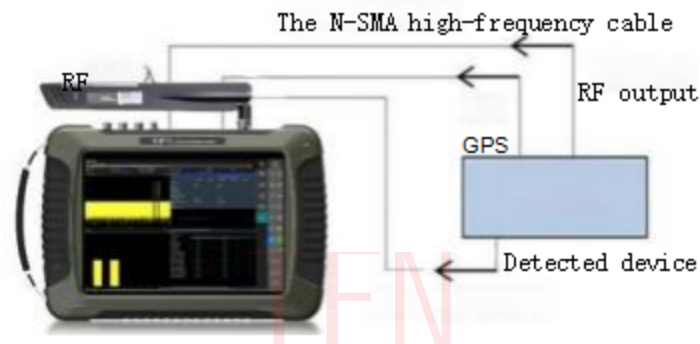

Figure 10.3 Connecting diagram of the tested equipment and RMT series spectrometer
- Step 1. Use the measured equipment to output an 8 PSK signal, set the frequency at 936.8MHz and the power at -30 dBm, and connect the output of the measured equipment to the RMT series RF input port of the spectrometer through the cable, as shown in Figure 10.3. It is recommended to connect the reference signal for optimizing the test index. Referring to section 3.2.2.